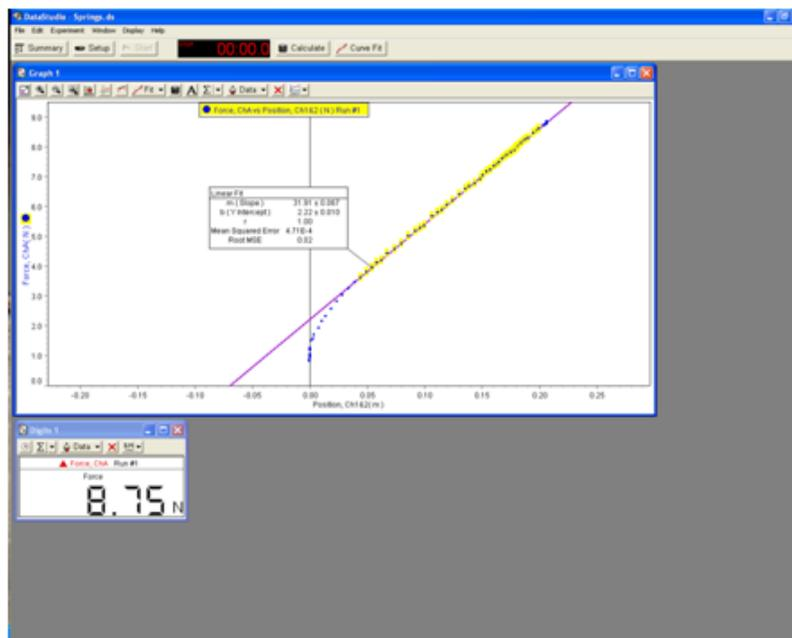

Figure 5: A sample experiment file in Data Studio
- 14 Apply “Linear Fit” to the good part of your recording (see Fig. 5), which presents an elastic force vs. displacement graph. In the Inlab, record the value of the spring constant based on the slope of the graph.